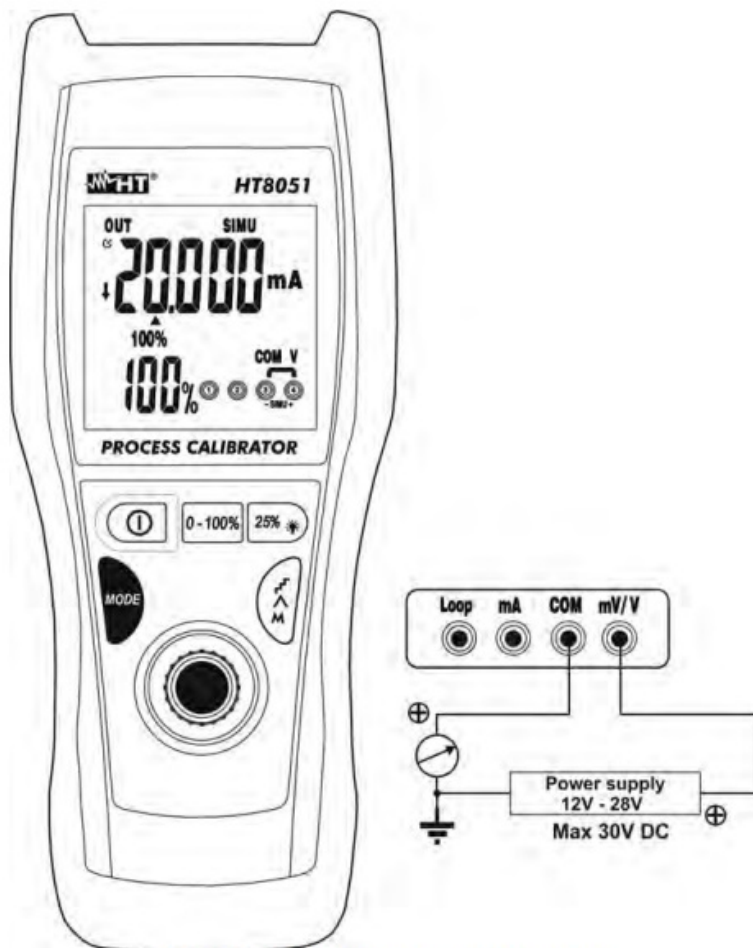

Fig. 8: Simulation of a transducer
5. Position the green lead and the black lead respectively in the points with positive potential of the external source and positive potential of the external measuring device (e.g.: multimeter – see Fig. 8)
6. To generate a negative current value, turn the measuring leads in the opposite direction with respect to the connection in Fig. 8